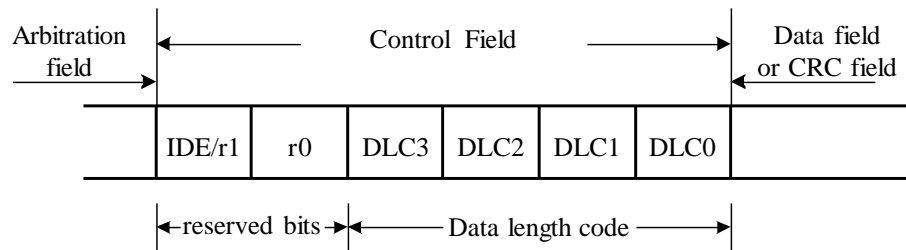

Figure 13.4 Control field
- ▶ Contents are shown in figure 13.4.
- ▶ DLC3...DLC0 stands for data length and can be from 0000 (0) to 1000 (8).